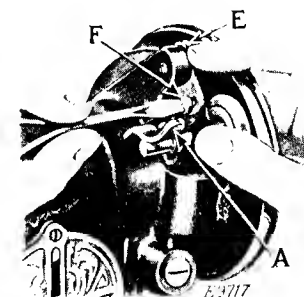

FIG. 28. ADJUSTMENT OF BOBBIN WINDER
If the pressure of the bobbin winder pulley, against the hub of the balance wheel, is insufficient for winding the bobbin, press down the bobbin winder until the latch (A) drops down and holds it, then loosen the adjusting screw (F). With the forefinger, push back the upper end of the slotted plate (E), as far as it will go, as shown in Fig. 28, and, at the same time, press the bobbin winder pulley against the hub of the balance wheel, then tighten the adjusting screw (F).